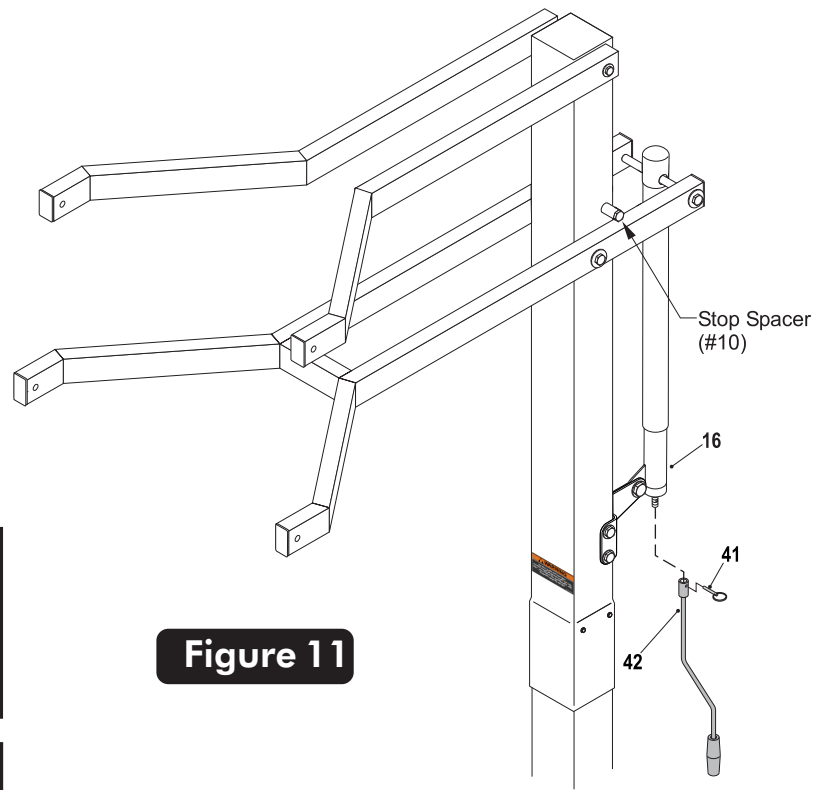

Figure 11
13. Slide Actuator Crank (#42) onto shaft on the bottom of Actuator (#16). Line up hole in shaft with hole in Actuator Crank and insert Pin (#41) to secure. See **Figure 11**.